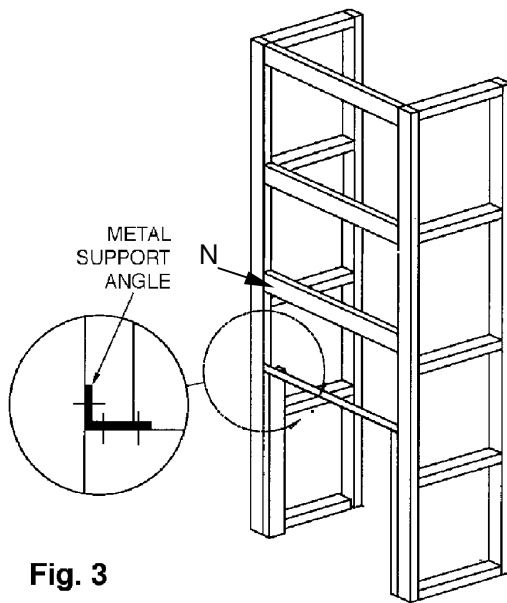

Fig. 3
4. Frame up the **enclosure** using nominal 90 by 45 dressed timber, verifying that it will be on the flue centreline. (See Fig. 3). The overall depth of the frame should be $(587 - t)$ mm, where 't' is the cladding thickness. The distance between the trimmers (where the assembled shielding box will fit), should be 737mm. The overall width of the enclosure frame shown is the minimum required, but if desired it may be larger. The trimmers do not run the full height, but end 719 mm above the finished top face of the floor
protector (or 719 mm above the top of the bearers if the heater is 'elevated'). Refer to paragraph 6 for floor protector thickness options and the advantage of 'elevated' installations. Fix the metal support angle across the tops of the trimmers to provide support and fixing for the front heat resistant cladding. (See Fig. 3).